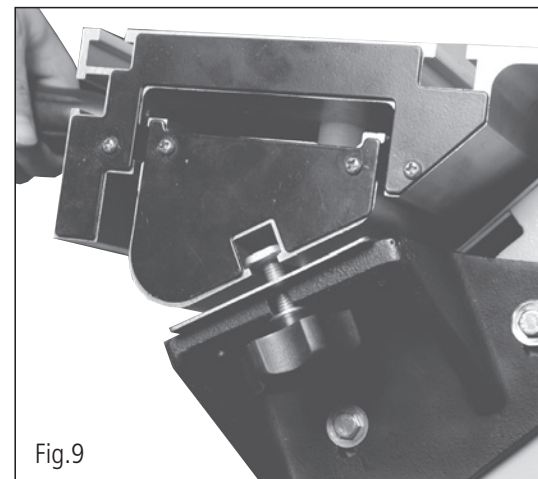

Fig.9
4. Attach the sliding beam to the mounting brackets using the fixings supplied (the mounting brackets are already fitted to the saw body during the production process) (Fig 9).